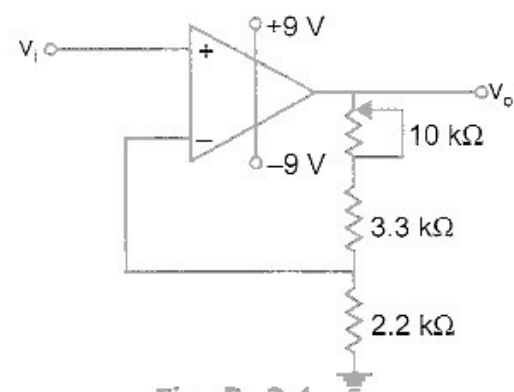

Fig. P. 2.4
- 2.4. For the circuit shown in Fig. P. 2.4, calculate the range of gain and input impedance.